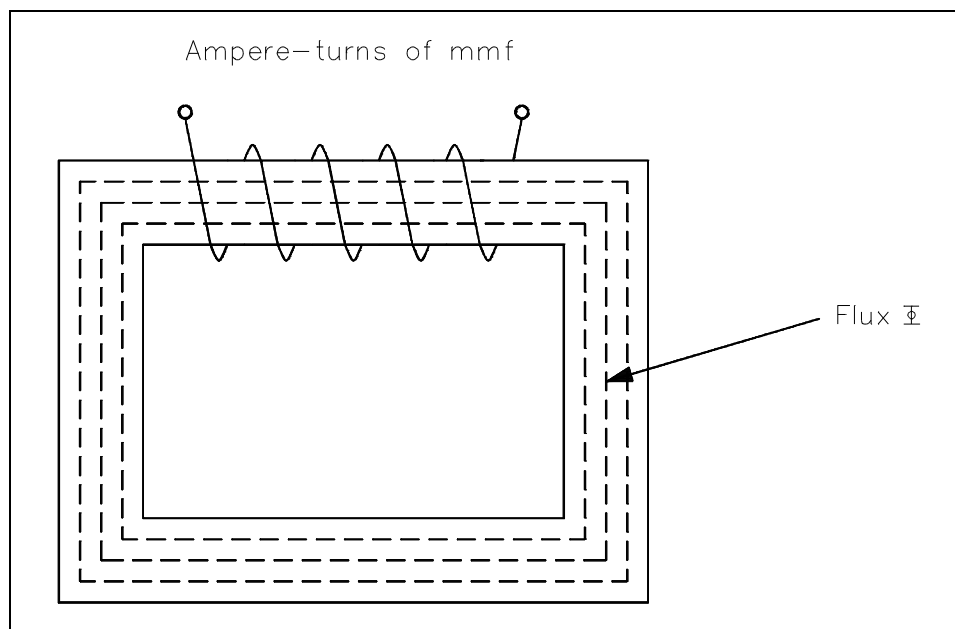

Figure 26 Magnetic Current with Closed Iron Path
A magnetic circuit can be compared with an electric current in which EMF, or voltage, produces a current flow. The ampere-turns (NI), or the magnetomotive force ( $F_m$  or mmf), will produce a magnetic flux  $\Phi$  (Figure 26). The mmf can be compared with EMF, and the flux ( $\Phi$ ) can be compared to current. Equation (1-16) is the mathematical representation of magnetomotive force